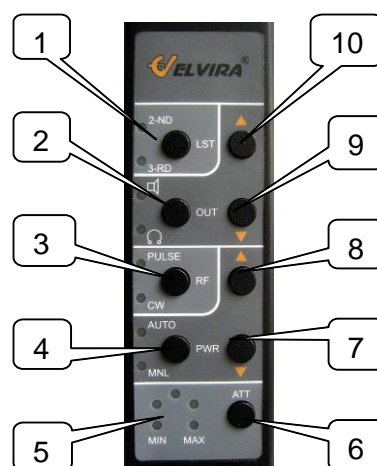

Fig. 4
Control buttons are divided into two groups by their function: «AUDIO» placed in the upper half of the panel and «POWER RF» in the lower half. Control panel is shown in Fig.4
6.4. If a response signal is to be tapped by phones, switch over acoustic indication to the head phones mode pressing the corresponding button on the control panel (see 2 in Fig.4) and turning wireless phones on (according to their User Manual).